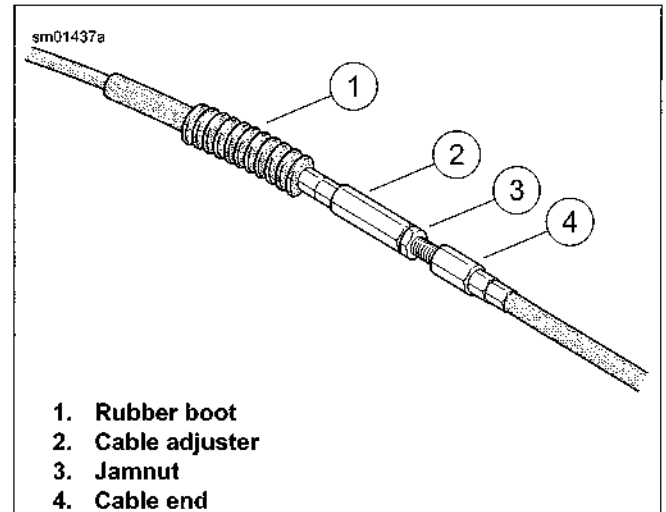

Figure 1-19. Clutch Cable Adjuster
3. See Figure 1-19. Pull the boot (1) away from the cable adjuster (2).
4. Loosen the jamnut (3).